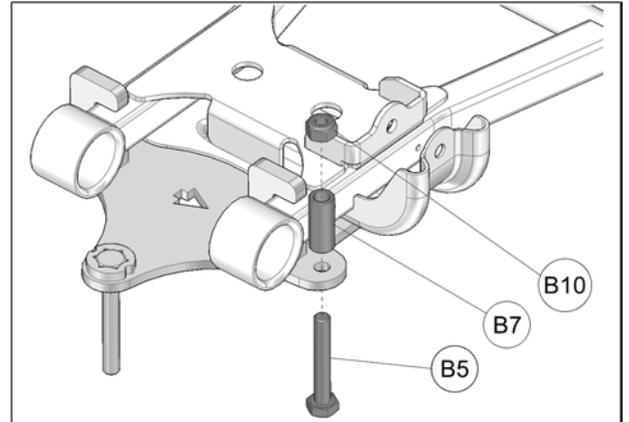

Fig. 7
6. Insert the M10x65mm bolt (B5) in the bracket hole aligned with C-shaped hooks, install spacer bushing (B7) and nut (B10) on bolt. Tighten assembly to 50 N•m [37lb•ft] of torque. See Fig. 7